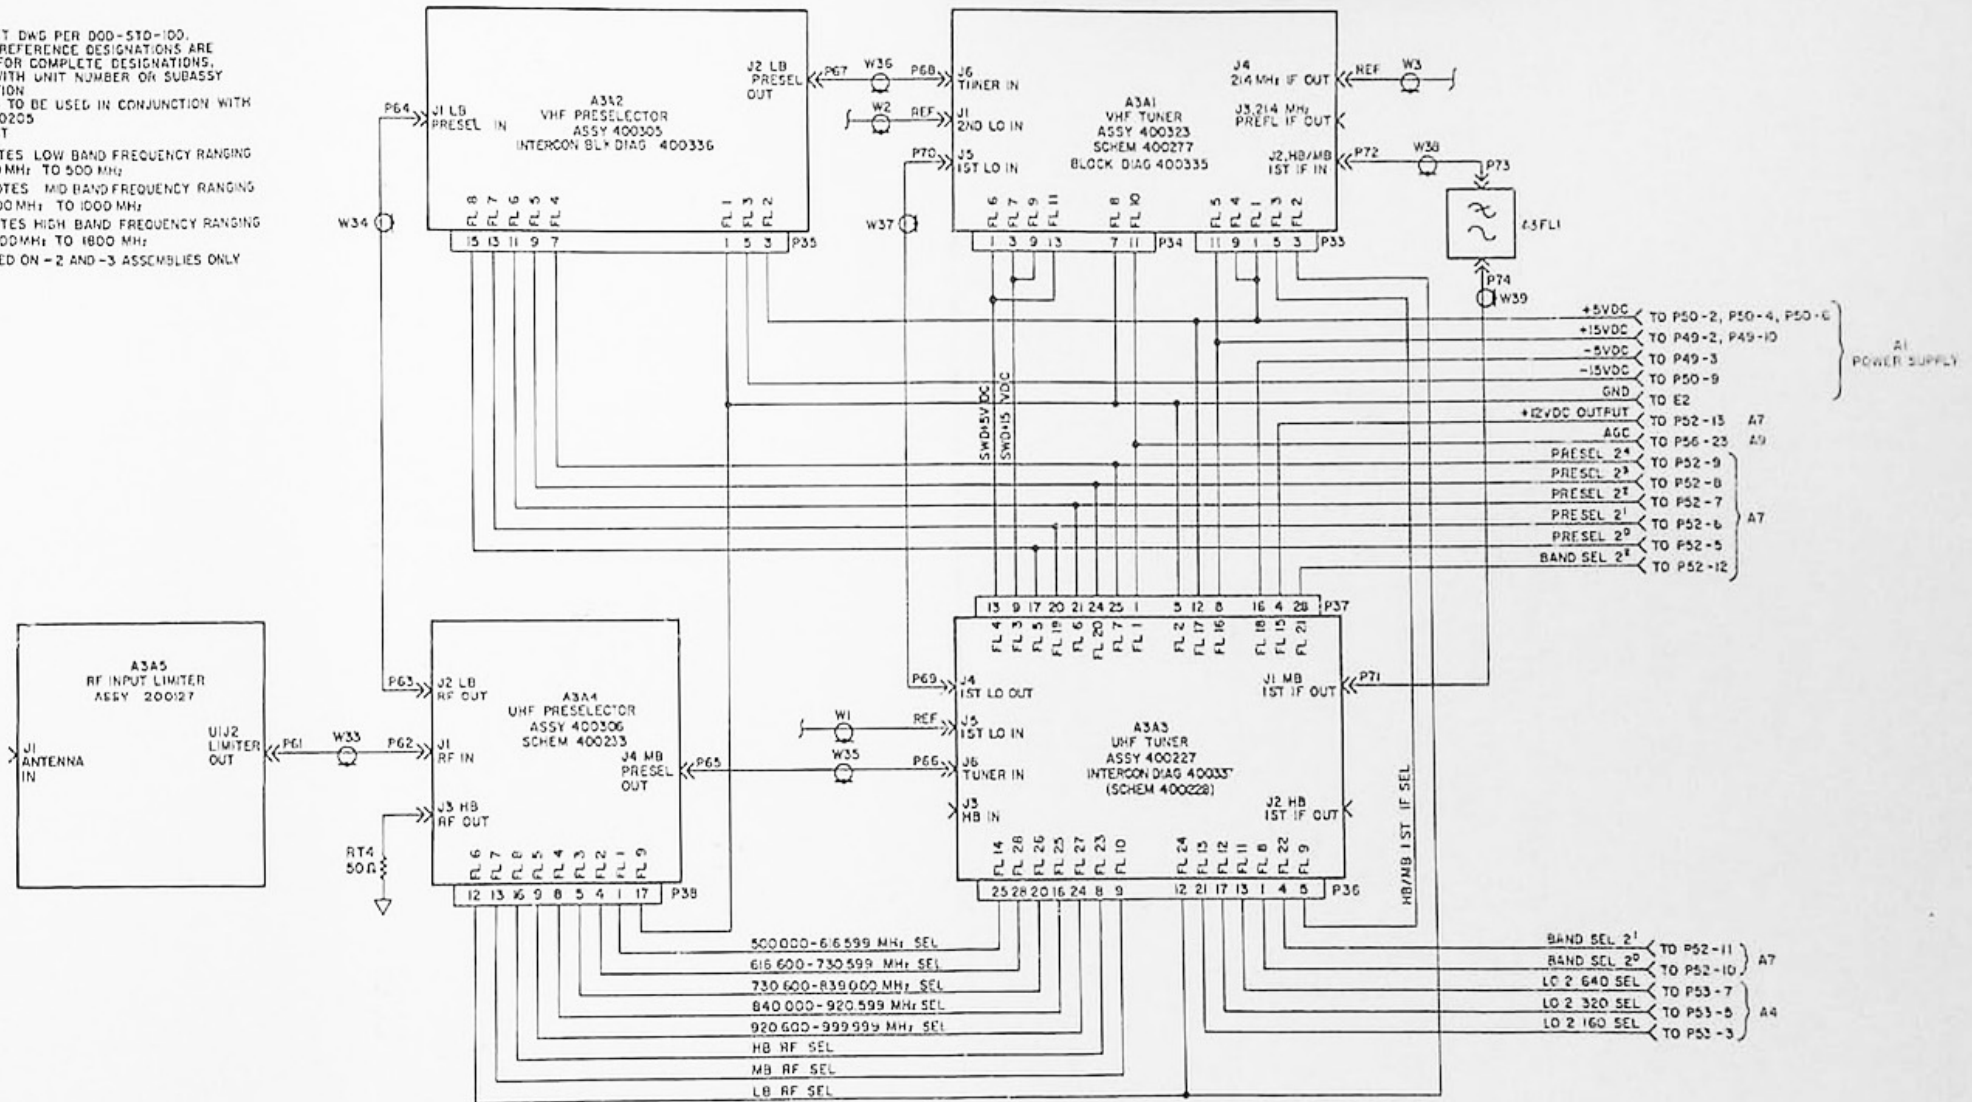

Figure 7-6. Tuner Assembly (A3) Interconnecting Wiring Diagram
- Figure 7-6. Tuner Assembly (A3) Interconnecting Wiring Diagram